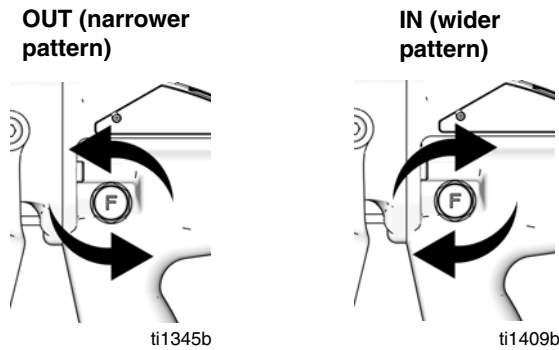

FIG. 7. Pattern Air Knob
1. See FIG. 7. Close off pattern adjustment air by turning knob clockwise (in) all the way. This sets gun for its widest pattern.